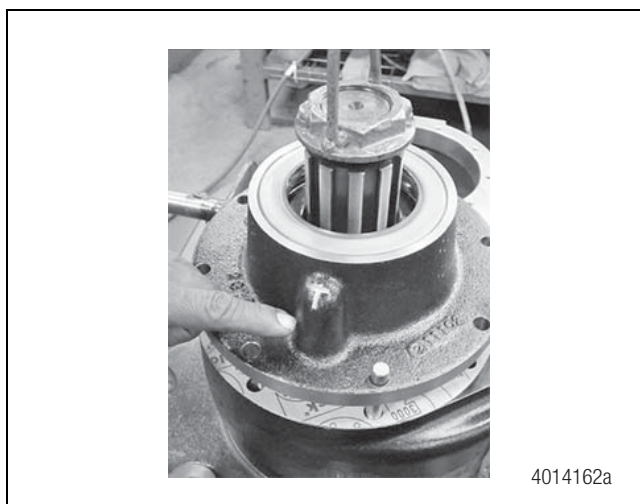

Figure 5.12
5. Lift off the shaft assembly. Discard the carrier gasket. Figure 5.12.